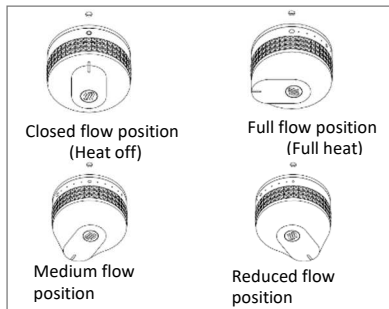

Figure 2: Adjusting the control lever
5. Then adjust the height of the flame by turning the control lever(s) from full flow (large circle) to reduced flow (small circle) (See Figure 2).d